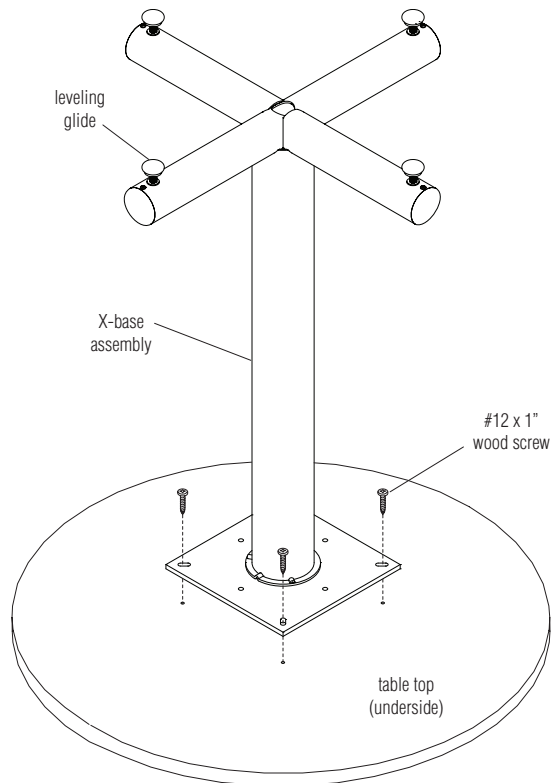

Figure 4
7. Carefully lay table top upside down on a soft protective surface. Position X-leg assemblies over table top, aligning mounting holes of square mounting plate with pre-drilled holes in underside of table surface (Figure 4).
8. Secure X-leg assembly to underside of table surface using four #12 x 1" screws per base. Take care to not over-tighten screws (Figure 4).